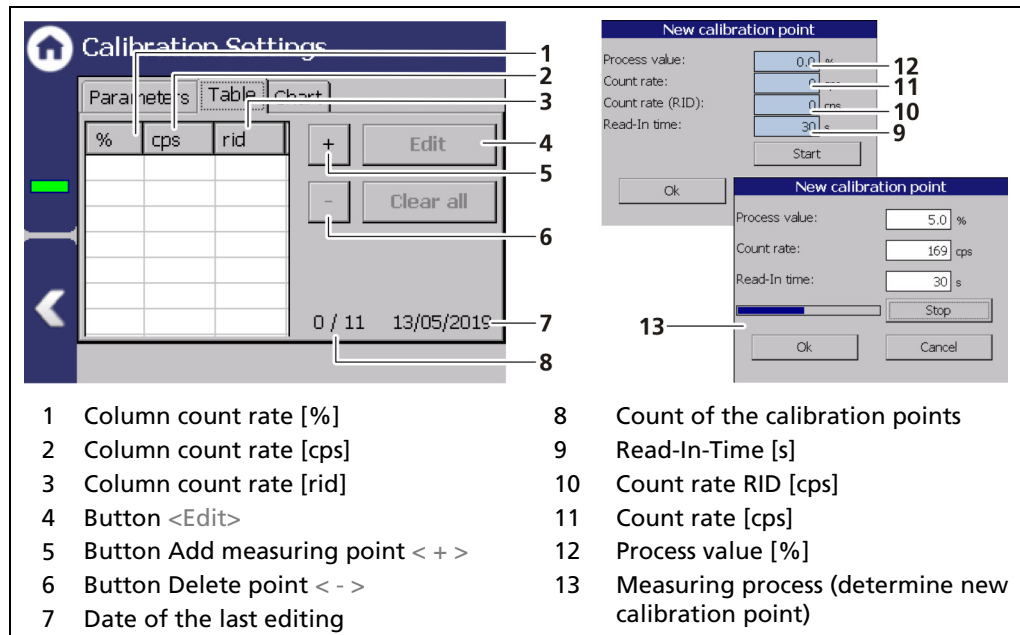

Fig. 80 Calibration parameters (Table linear calibration type)
- Click on the button < + > (Fig. 80, item 5).
- The window "New calibration point" (Fig. 80, item 9-12) opens.
- Click on the input field "Process value" (Fig. 80, item 12) to open the input field.
- Click on the input field "Read-In-Time" (Fig. 80, item 9) to open the input field.
- The Window "New calibration Point" (Fig. 80, item 13) opens and the count rate is determined.